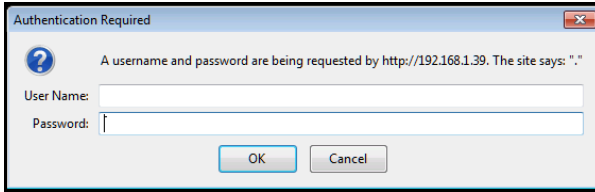

Figure 9: Entering Logon Credentials
**Note:** If authentication is enabled, the following window appears (Figure 9) and you must enter the valid username and password to access the Web pages. For default authentication details, see Section 10.